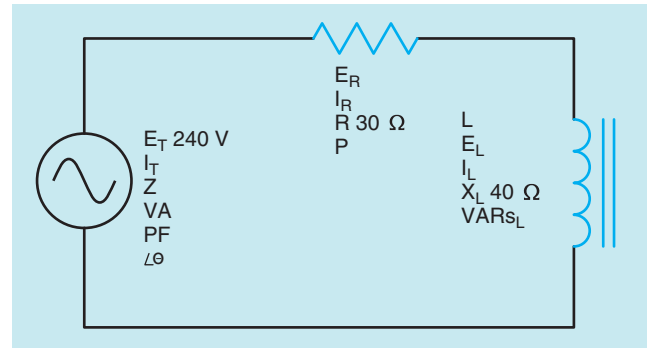

FIGURE 13-2 R-L series circuit.
of resistance as compared to inductance. In the following example, a series circuit containing $30\ \Omega$ of resistance (R) and $40\ \Omega$ of inductive reactance (X_L) is connected to a 240-V, 60-Hz line (Fig. 13-2). It is assumed that the inductor has negligible resistance. The following unknown values will be computed:
The parallelogram method of vector addition can also be used to find the total impedance of the circuit shown in Figure 13-2. The resistance forms a vector with a magnitude of $30\ \Omega$ and a direction of 0° . The inductive reactance forms a vector with a magnitude of $40\ \Omega$ and a direction of 90° . When lines are extended to form a parallelogram
The total current for the circuit in **Figure 13-2**, then, is